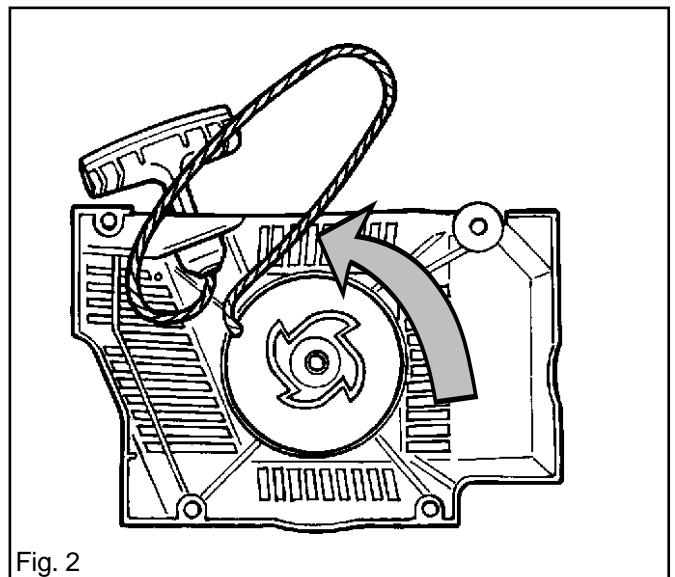

Fig. 2
2. Pull out the handle 20-30 cm and lift out the cord from the slot in the cord pulley. See fig. 2.